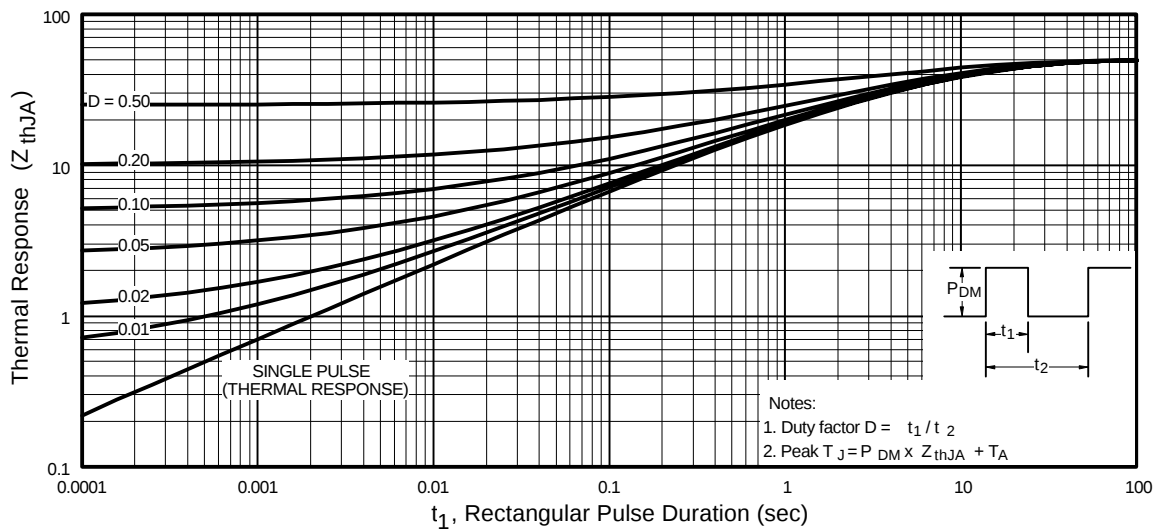

Fig 11. Maximum Effective Transient Thermal Impedance, Junction-to-Ambient
① Repetitive rating; pulse width limited by max. junction temperature. (See fig. 11)
③ Pulse width $\leq 300\mu s$; duty cycle $\leq 2\%$.
② $I_{SD} \leq 4.1A$, $di/dt \leq 100A/\mu s$, $V_{DD} \leq V_{(BR)DSS}$, $T_J \leq 150^\circ\text{C}$
④ Surface mounted on FR-4 board, $t \leq 10\text{sec}$.